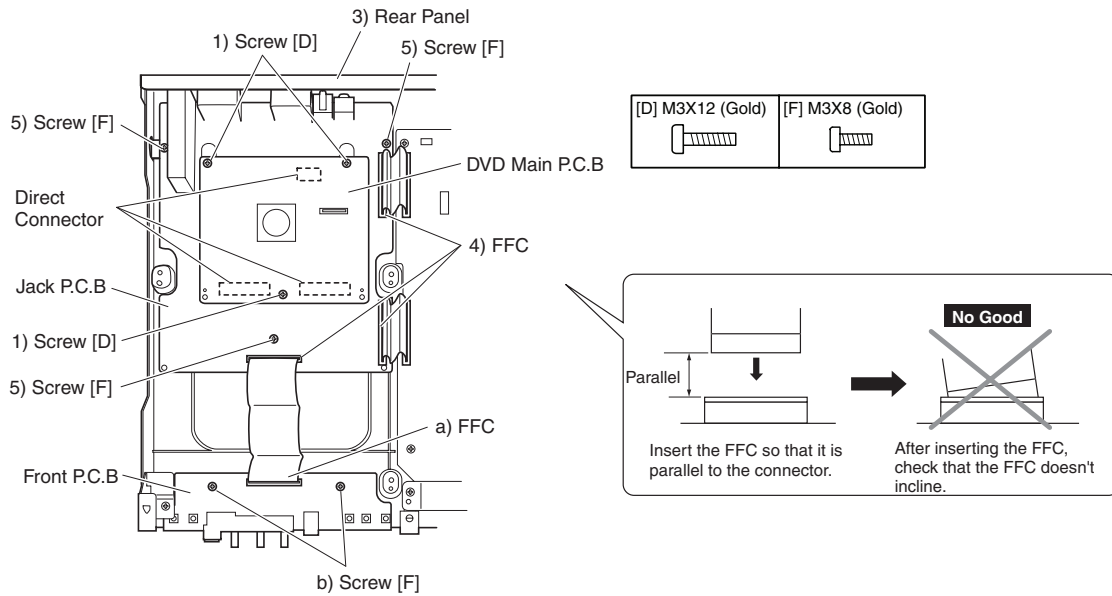

Fig. 4-2-5 DVD Main P.C.B, Jack P.C.B and Front P.C.B
(5) DVD Main P.C.B and Jack P.C.B (Fig. 4-2-5)